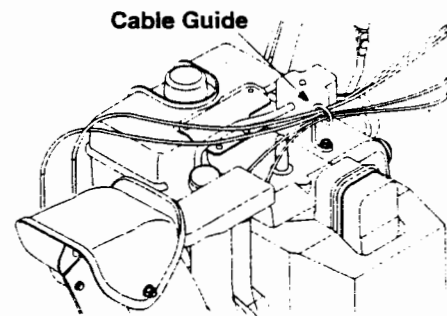

Figure 7
1. Slip the cables, running from the chute to the handle panel into the cable guide located on top of the engine. See Figure 7.